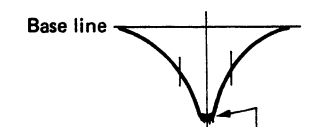

Fig. 3
- Feed in a weak signal from the genescope. Adjust T151 and T201 for maximum gain and the waveform of Figure 3.